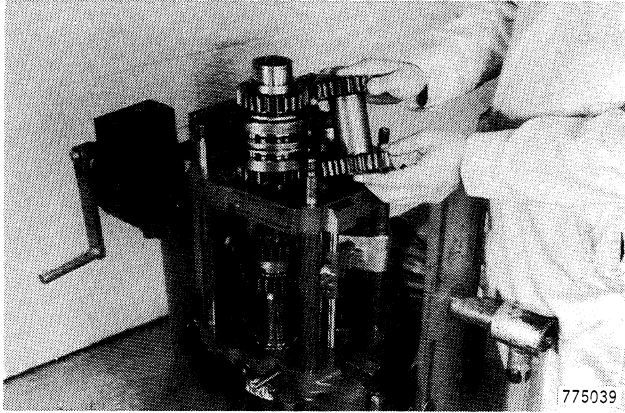

Figure 312
14. Install counter gear assembly, Figure 312.